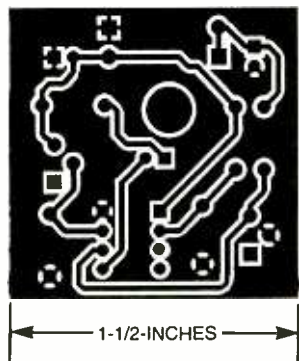

Fig. 5. The Nocturnal Flame is best built on a single-sided PC board to reduce wiring errors.
**Assembly and Test.** The Nocturnal Flame is simple enough to be built on a piece of perfboard using standard construction techniques. However, a neater and more error-proof project results from the use of a PC board. If you'd like to go that route, a foil pattern for a single-sided board is shown in Fig. 5. As an alternative to etching your own board, one can be purchased from the source given in the Parts List.